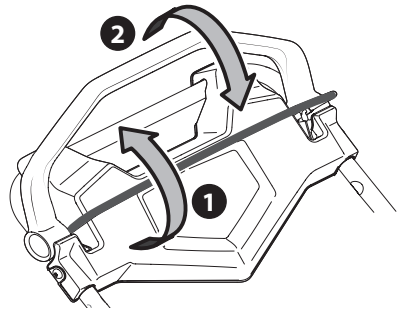

Figure 36
1. Once the engine is running and while continuing to hold the blade and drive controls together, push the drive control forward to propel mower. The farther the control is pushed forward, the faster the mower will propel (Figure 36).